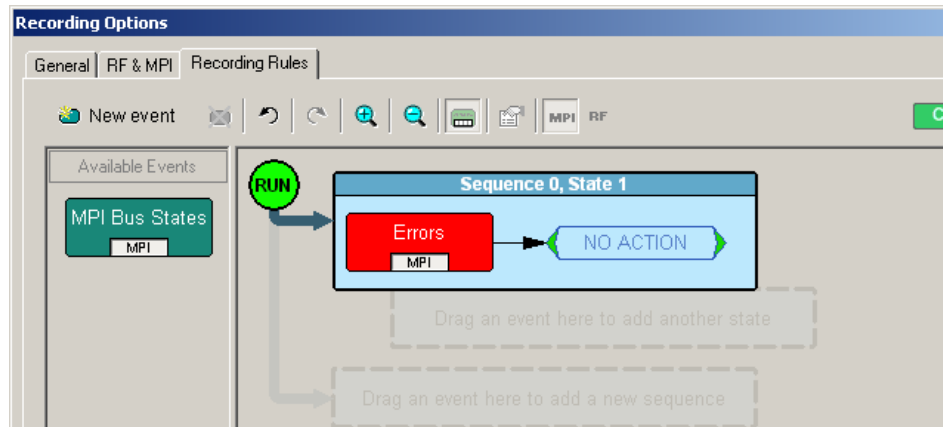

Figure 12.14 Event Button in Cell
Step 3 Drop the button in the cell (release the left mouse button). The Event button appears in the cell (Figure 12.14).
As shown in Figure 12.14, the default label for the first cell is “Sequence 0, State 1.” As described later in this section, you can change that label using the Properties pop-up for that cell.
As Figure 12.14 also shows, two new cells appear under the first cell. The first of these new cells is a state cell that allows you to create another state in rule Sequence 0 (to make Sequence 0 a multi-state sequence).